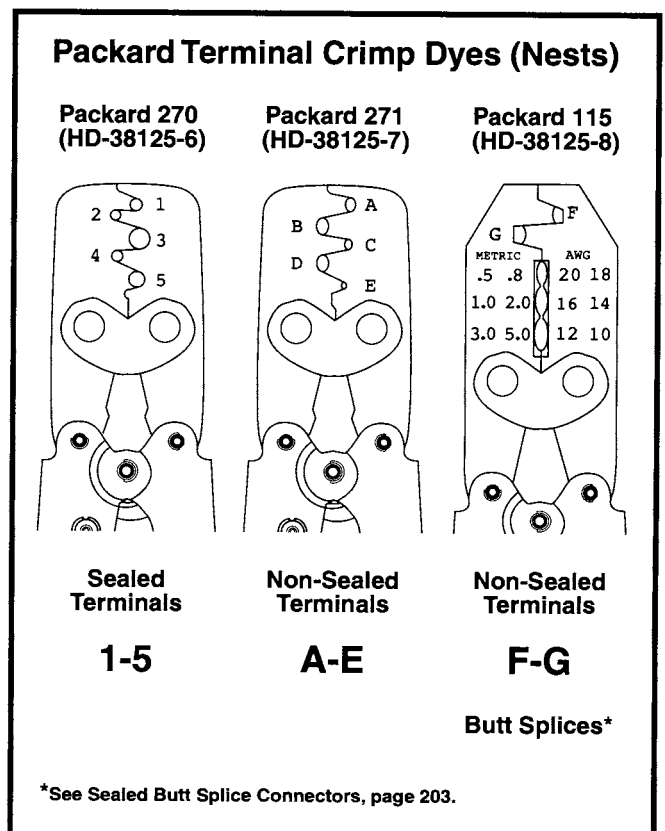

Figure 158. Packard Terminal Crimp Tools
3. See Figure 158. Determine the correct dye or nest for the core crimp based on the information presented in the Crimp Tables beginning on page 206.
8. See Figure 158. Determine the correct dye or nest for the insulation/seal crimp based on the information presented in the Crimp Tables beginning on page 206.